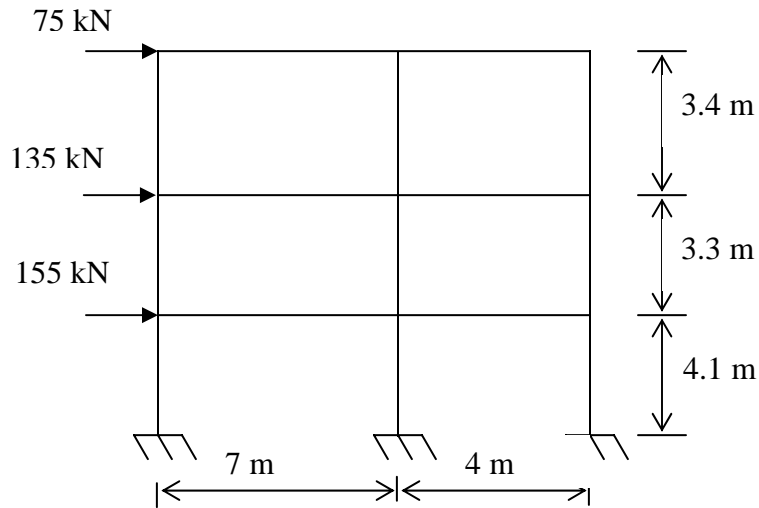

Fig.5
7. Analyse the frame shown in Fig.5 by stiffness method. Draw the bending moment diagram and sketch elastic curve. Cross-sectional area of all columns is equal. [15]